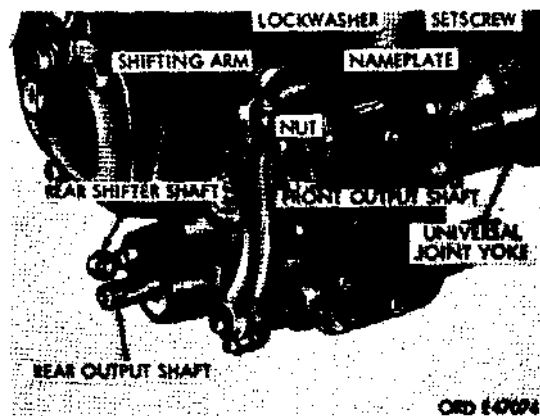

Figure 284. Transmission mounted power takeoff (dump truck M51, M51A2 only)
c. Power Takeoff (Mounted on Transmission; Dump Truck M51, M51A2 Only) (Fig. 284). The
204. Power Takeoff (Dump Truck M51, M51A2 only) (Fig. 284)
- (1) Drain transmission.
- (2) Remove cotter pin from end of power takeoff-control-rod yoke pin, remove yoke pin, and remove control rod from power takeoff shifting arm.
- (3) Loosen hex-socket setscrew in universal joint yoke on output shaft at front of power takeoff.
- (4) Remove cotter pin from end of power takeoff-cross-shaft-rod yoke pin, remove yoke pin, and remove cross-shaft rod from rear shifter shaft (fig. 284).
- (5) Cut locking wire on setscrew securing universal joint yoke to rear output abaft (fig. 284), and loosen setscrew.
- (6) Remove six nuts and lockwashers securing power takeoff to transmission. Slide power takeoff free of mounting studs.
- (7) Tap yoke on output shaft lightly to remove front winch propeller shaft from power takeoff.
- (8) Tap yoke on rear output shaft lightly to remove hydraulic-hoist-prep propeller shaft from power takeoff.
- (9) Remove and discard power takeoff mounting gasket.
- (3) Aline key on rear output shaft (fig. 284) with keyway in yoke on front of hydraulic-hoist-pump propeller shaft, and tap lightly on yoke to slide it onto-output shaft.
- (4) Position power takeoff on mounting studs on side of transmission, and install six lockwashers and nuts on studs. Tighten nuts 30 to 40 pound-feet torque.
- (5) Drive yoke onto front output shaft until inner end of key is flush with end of yoke, and tighten hex-socket setscrew in yoke.
- (6) Adjust and connect power takeoff control rod (a) through (d) below.
- (7) Drive yoke onto rear output shaft until inner end of key is flush with end of yoke, tighten hex-socket setscrew in yoke, and lock setscrew in position with wire.
- (8) Adjust and connect cross shaft rod to rear shifter shaft (fig. 284) using same procedures as in (6) above.
- (9) Fill transmission. Refer to LO 9-2320-211-12.